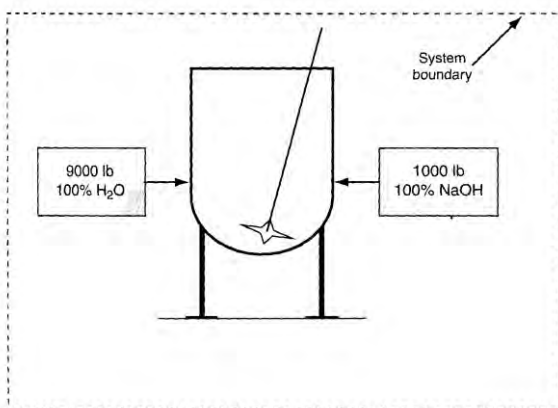
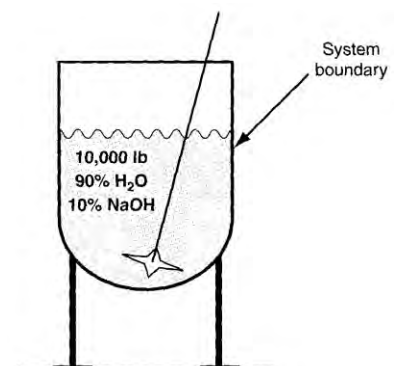

Figure 6.11a The initial state of a batch mixing process.
Figure 6.11b The final state of a batch mixing process.
- ◆ Look at Figure 6.11a that illustrates what occurs at the start of a batch process, and after thorough mixing, the final solution remains in the system (Figure 6.11b).